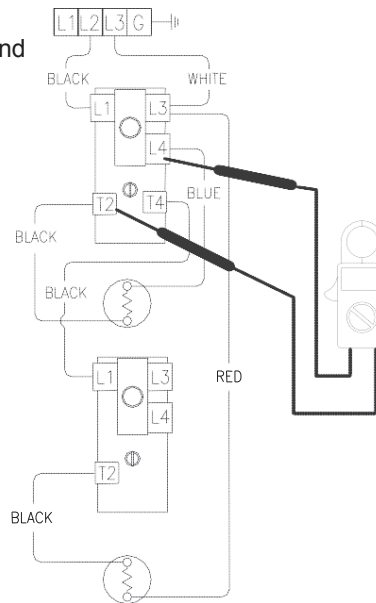

Figure 29
4. Check across terminals L4 and T2 of upper thermostat (see Figure 29).
4. See Figure 29 above. Check voltage across terminals L4 & T2 of upper thermostat.